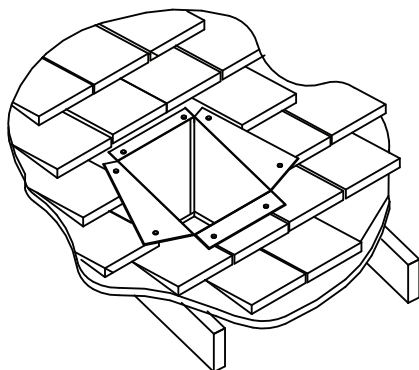

Figure 21
Step 5. Using tin snips, cut the Support Box from the top corners down to the roofline, and fold the resulting flaps over the roof sheathing. The flaps may be trimmed as needed (**Fig. 21**). Before nailing it to the roof, run a bead of non-hardening sealant around the Support Box, to make a seal between the Support Box and the roof. Clean out any combustible material from inside the Support Box.